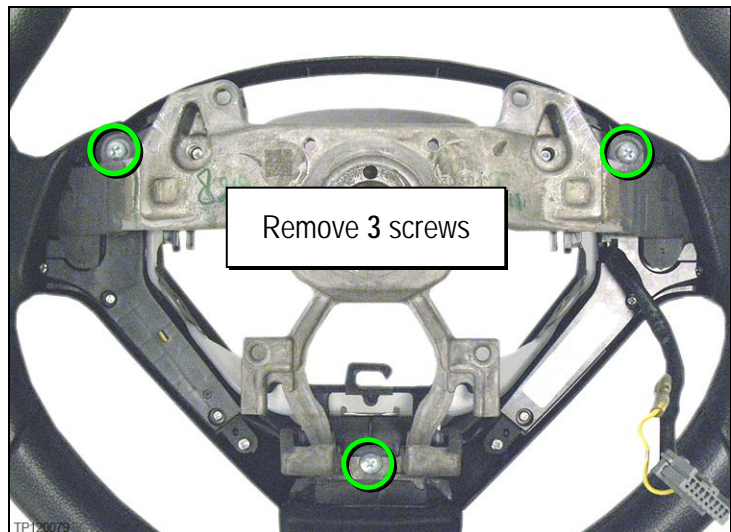

Figure 7
8. Remove the three (3) screws shown in Figure 7.